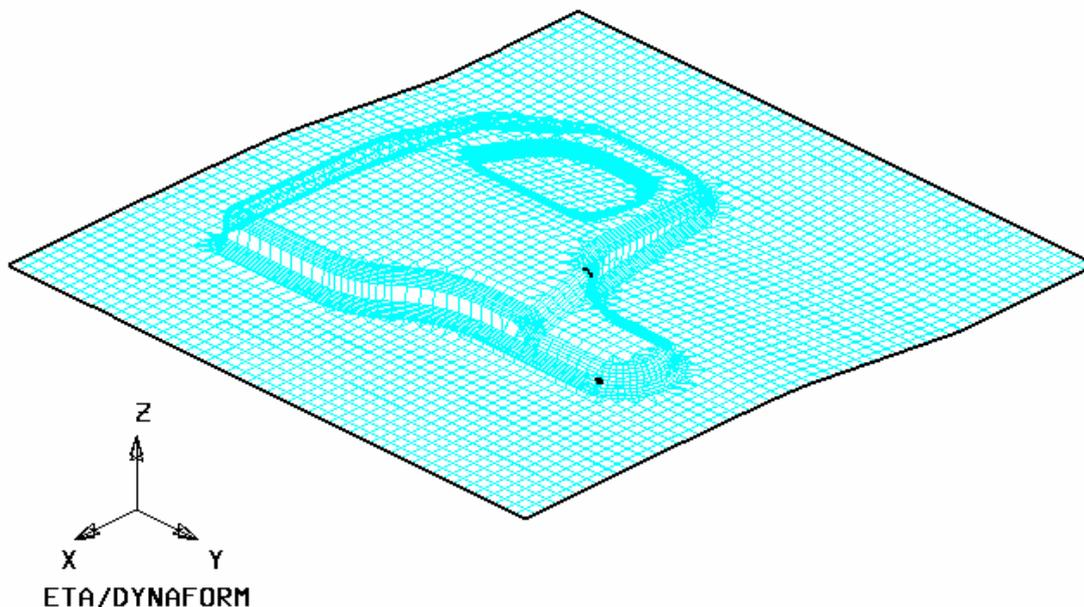

Figure 5.20 Model boundary check
Minor gaps in the tool mesh (punch, die etc) are acceptable. However, blank mesh should not contain any gaps or holes unless the blank is lanced or is designed with gaps. Select the isometric view and then compare it with below Figure 5.20 to detect the boundary.
1. Click **Weld...** button to display the SELECT NODE dialog box illustrated in Figure 5.20.